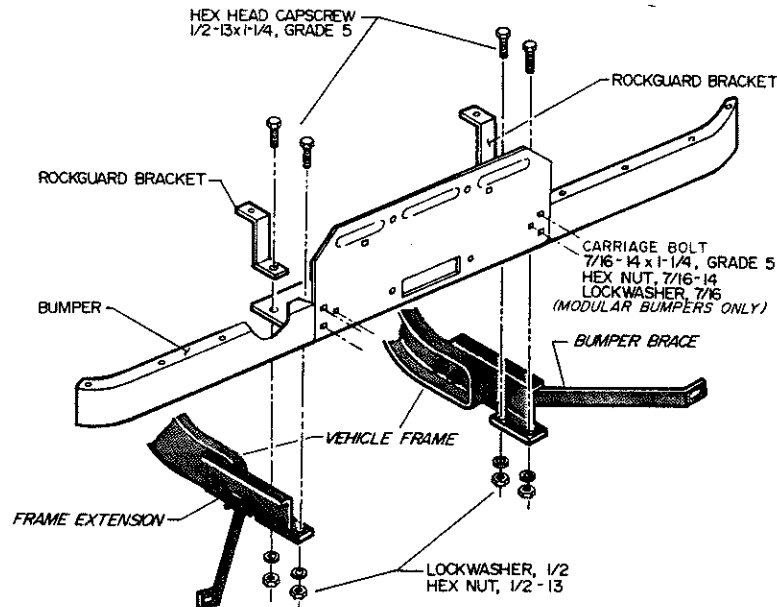

FIGURE 2
- Place the bumper on the frame extensions and secure with 1/2-14x1-1/4" hex head capscrews, lock washers and hex nuts. Rock guard brackets must be attached at rear holes of winch mounting plate. (See Figure 2)
Attach bumper ends to winch mounting brackets with 7/16-14x11-1/4" carriage bolts, lock washers and hex nuts. (See Figure 2)